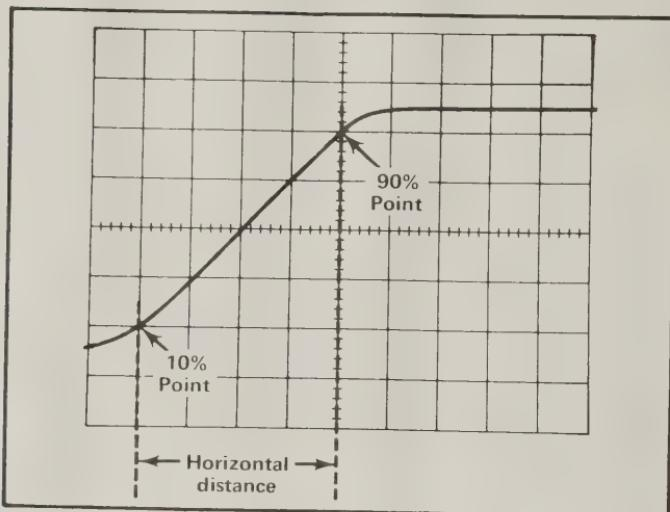

Fig. 5. Measuring risetime.
Example. The frequency of the signal shown in Fig. 5 which has a time duration of 0.5 millisecond is:
7. Adjust the horizontal POSITION control to move the 10% point of the waveform to the first graticule line. For example, with a five-division display as shown in Fig. 5, the 10% point is 0.5 division up from the start of the rising portion.
Example. Assume that the horizontal distance between the 10% and 90% points is four divisions (see Fig. 5) and the TIME/DIV switch is set to 1 μ s. Applying the time duration formula to risetime: